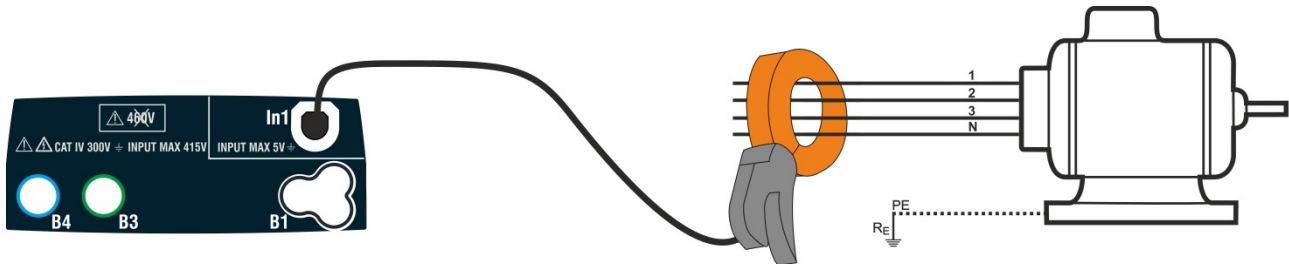
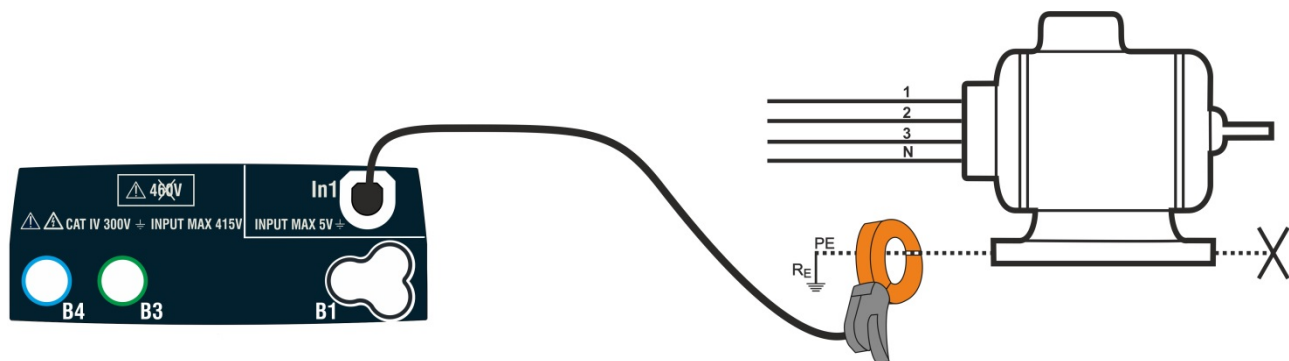

Fig. 37: Indirect measurement of leakage current in three-phase systems
Fig. 38: Direct measurement of leakage current in three-phase systems
4. For indirect measurements of leakage current, connect the external clamp according to Fig. 37. For direct measurements of leakage current, connect the external clamp according to Fig. 38 and disconnect possible additional earth connections which could influence the test results.